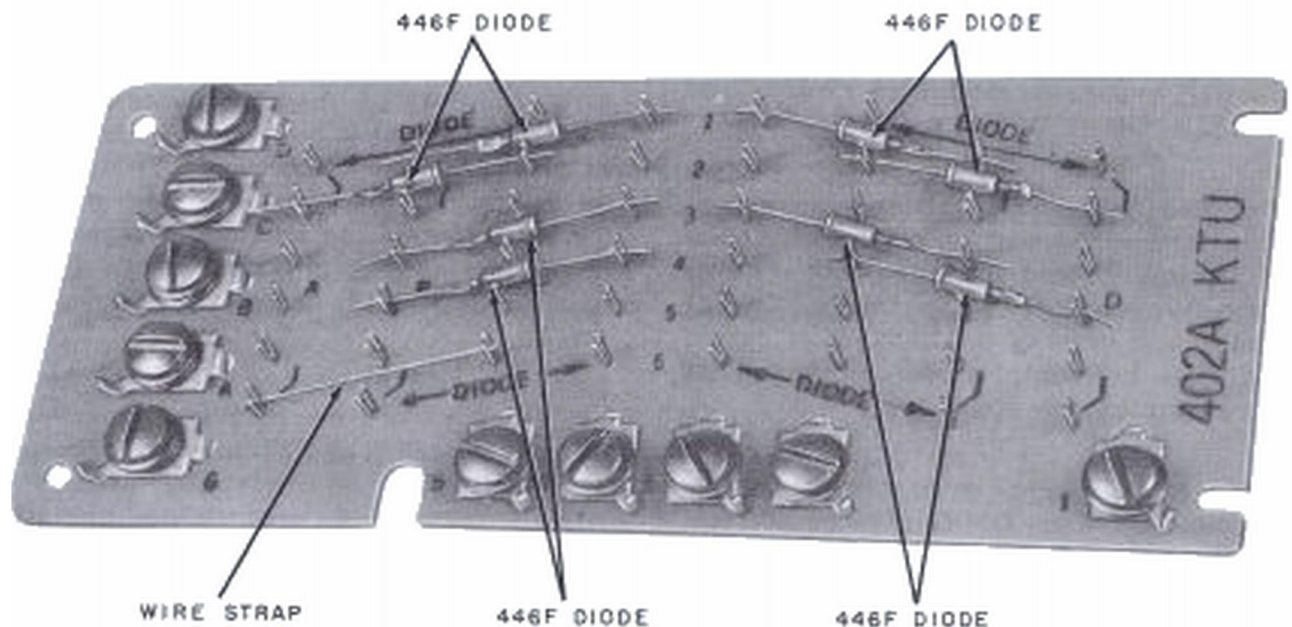
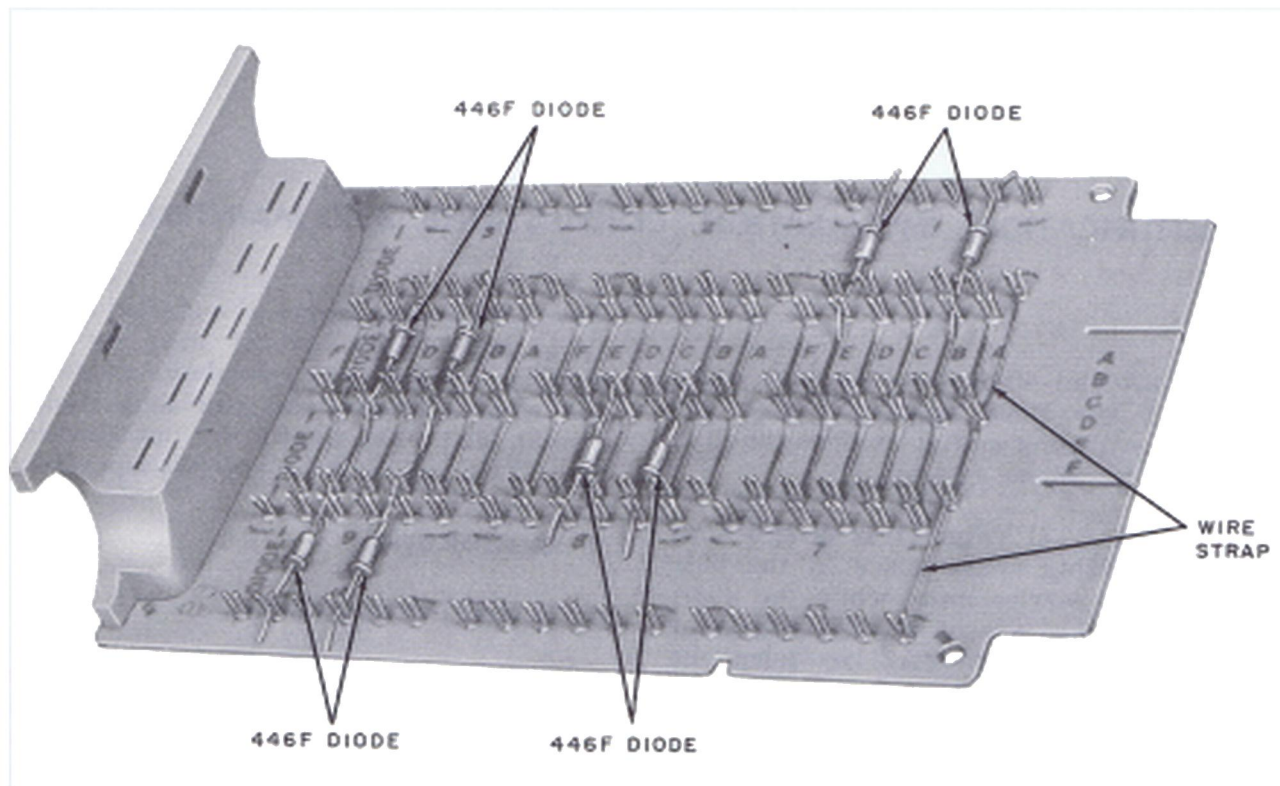

Fig. 1 — 402A KTU, With Diodes and Strap Installed
Fig. 2 — 404A KTU, With Diodes and Straps Installed
1.02 The 402A KTU (Fig. 1) is designed to utilize existing spare space in the 501- and 502-type key service units while the 404A KTU (Fig. 2) makes use of all 18-contacts of the connectors used in the 1A2 key telephone systems.
3.01 Install the 446F diodes, or equivalents, on the KTUs between the station ringer terminals and the line circuit terminals as required. Point the diode arrow toward the ringer terminal and press the leads into the clips using a pair of long-nose pliers. See Fig. 1 and 2 for typical diode installations.
3.02 A diode is not required when only one common ringer will be signaled from a line circuit. Install a 24-gauge bare wire strap between the terminals (see Fig. 1 and 2). If it becomes necessary to connect additional ringers to this line, replace the strap with a diode.